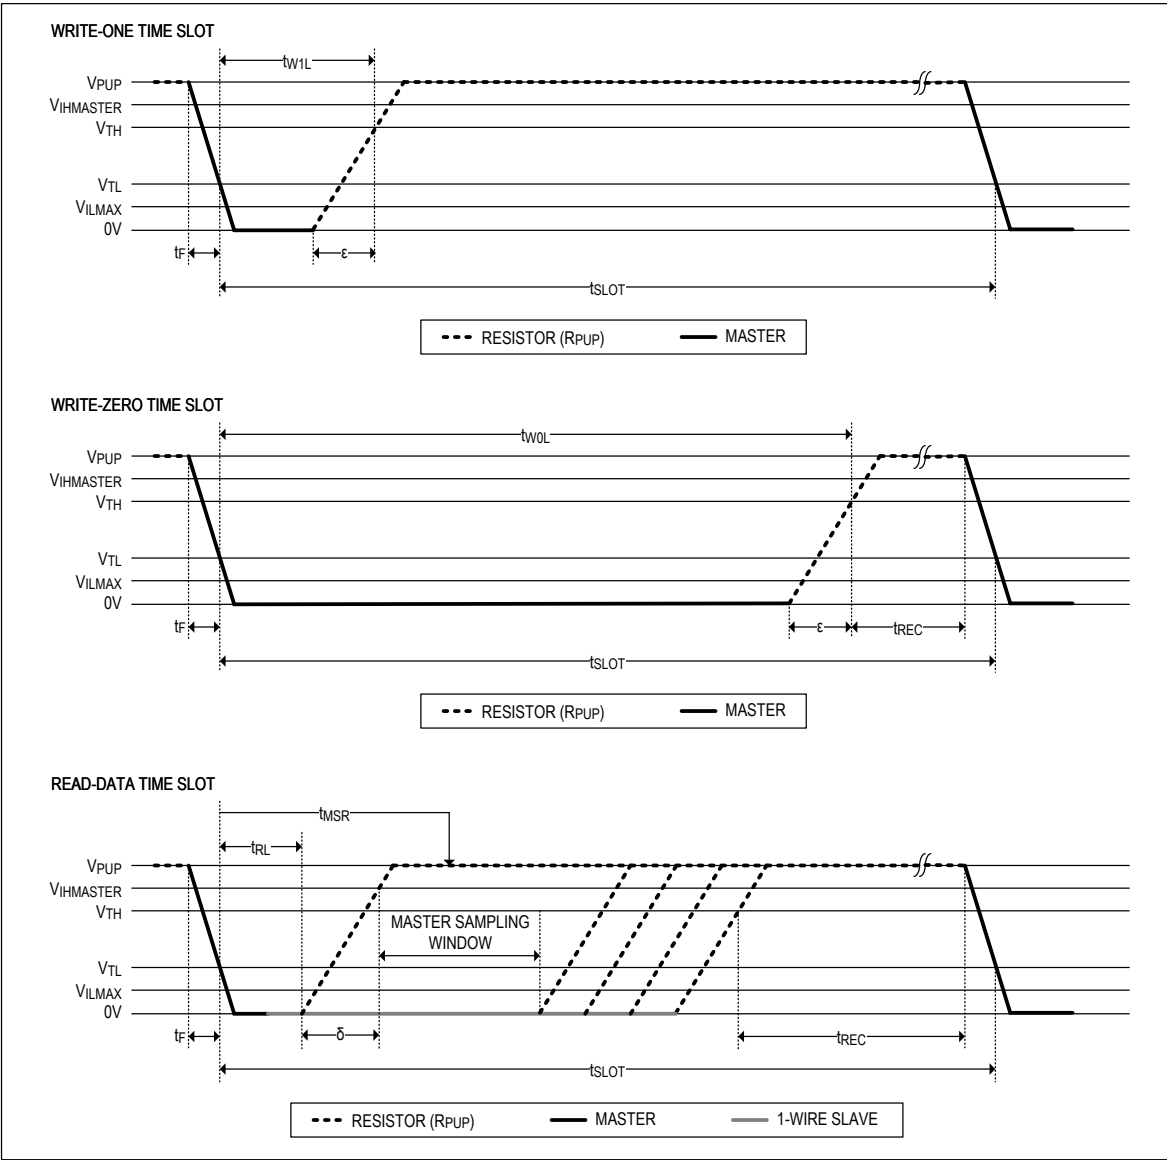

Figure 5. 1-Wire Read/Write Timing Diagrams
- Note 17:**  $\epsilon$  in Figure 5 represents the time required for the pullup circuitry to pull the voltage on IO up from  $V_{IL}$  to  $V_{TH}$ .
- Note 18:**  $\delta$  in Figure 5 represents the time required for the pullup circuitry to pull the voltage on IO up from  $V_{IL}$  to the input-high threshold of the bus master.
Data communication on the 1-Wire bus takes place in time slots that carry a single bit each. Write time slots transport data from the 1-Wire master to a connected slave. Read time slots transfer data from slave to the 1-Wire master. Figure 5 illustrates the definitions of the write and read time slots.